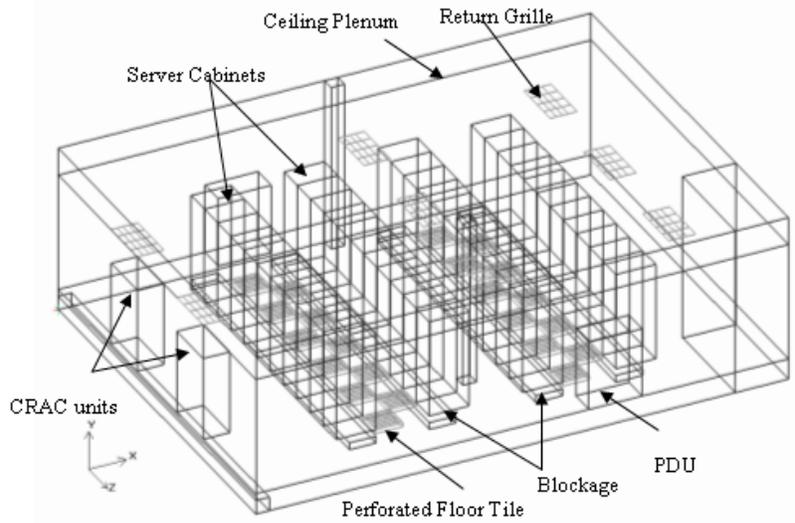
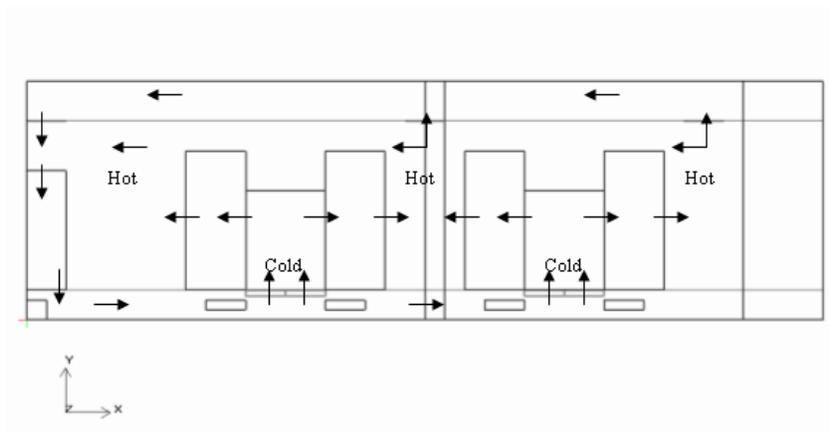

Figure 5.1: Geometry of the Datacenter Model
Figure 5.2: Expected Airflow Path
**Problem Description:** The tutorial considers a 1200 sq. ft. datacenter with a slab to slab height of 12 ft as shown in Figure 5.1. The datacenter consists of a 1.5 ft under floor plenum and a 2 ft ceiling plenum. The CRACs discharge cold air into the underfloor plenum. The cold air enter the main datacenter space mainly through the perforated floor tiles and returns back to the air conditioning units as shown in Figure 5.2. The cooling load, as summarized in Table 5.0.1 corresponds to the heat output from the server cabinets and the PDUs.